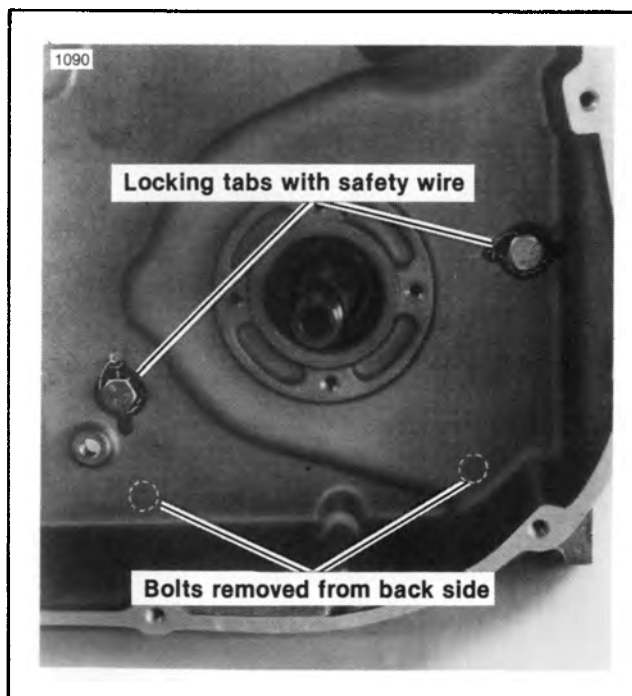

Figure 6-36. Removing Inner Primary Case from Transmission
6. See Figure 6-36. Remove the mounting bolts and locking tabs securing the inner primary chaincase to the transmission. The lower bolts (dotted lines) are removed from the back side of the housing.
2. See Figure 6-36. Install inner primary case and secure to transmission with lock tabs and bolts. Tighten 3/8 in. bolts to 21-27 ft-lbs torque and 5/16 in. bolts to 13-16 ft-lbs torque. Make sure mainshaft turns freely. Secure the locking tabs to the bolts.